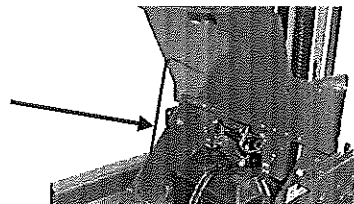

Figure 3
4. Open the front cover and prop it up with the support rod. See Figure 3.